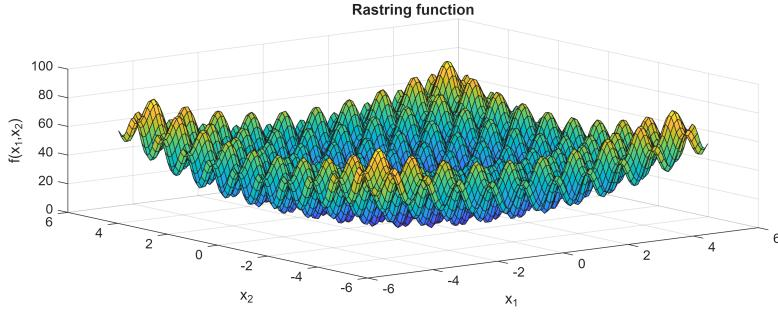

Figure 9.1: Example of surface plot of Rastrigin function.
- A plot of the objective function $f(x_1, x_2)$ (surface and contour). An example can be seen in Fig. 9.1